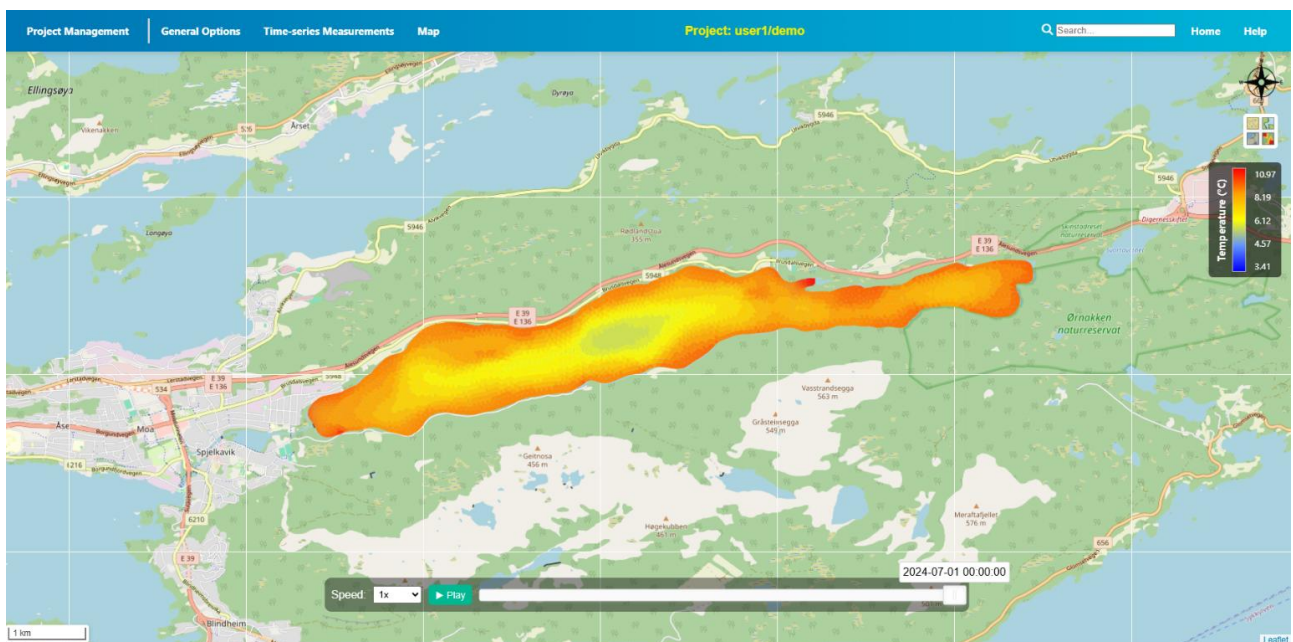

Figure 1.2. Main window
- Wait for the platform to set up the database and load components successfully until you see an overview map (Figure 1.2).